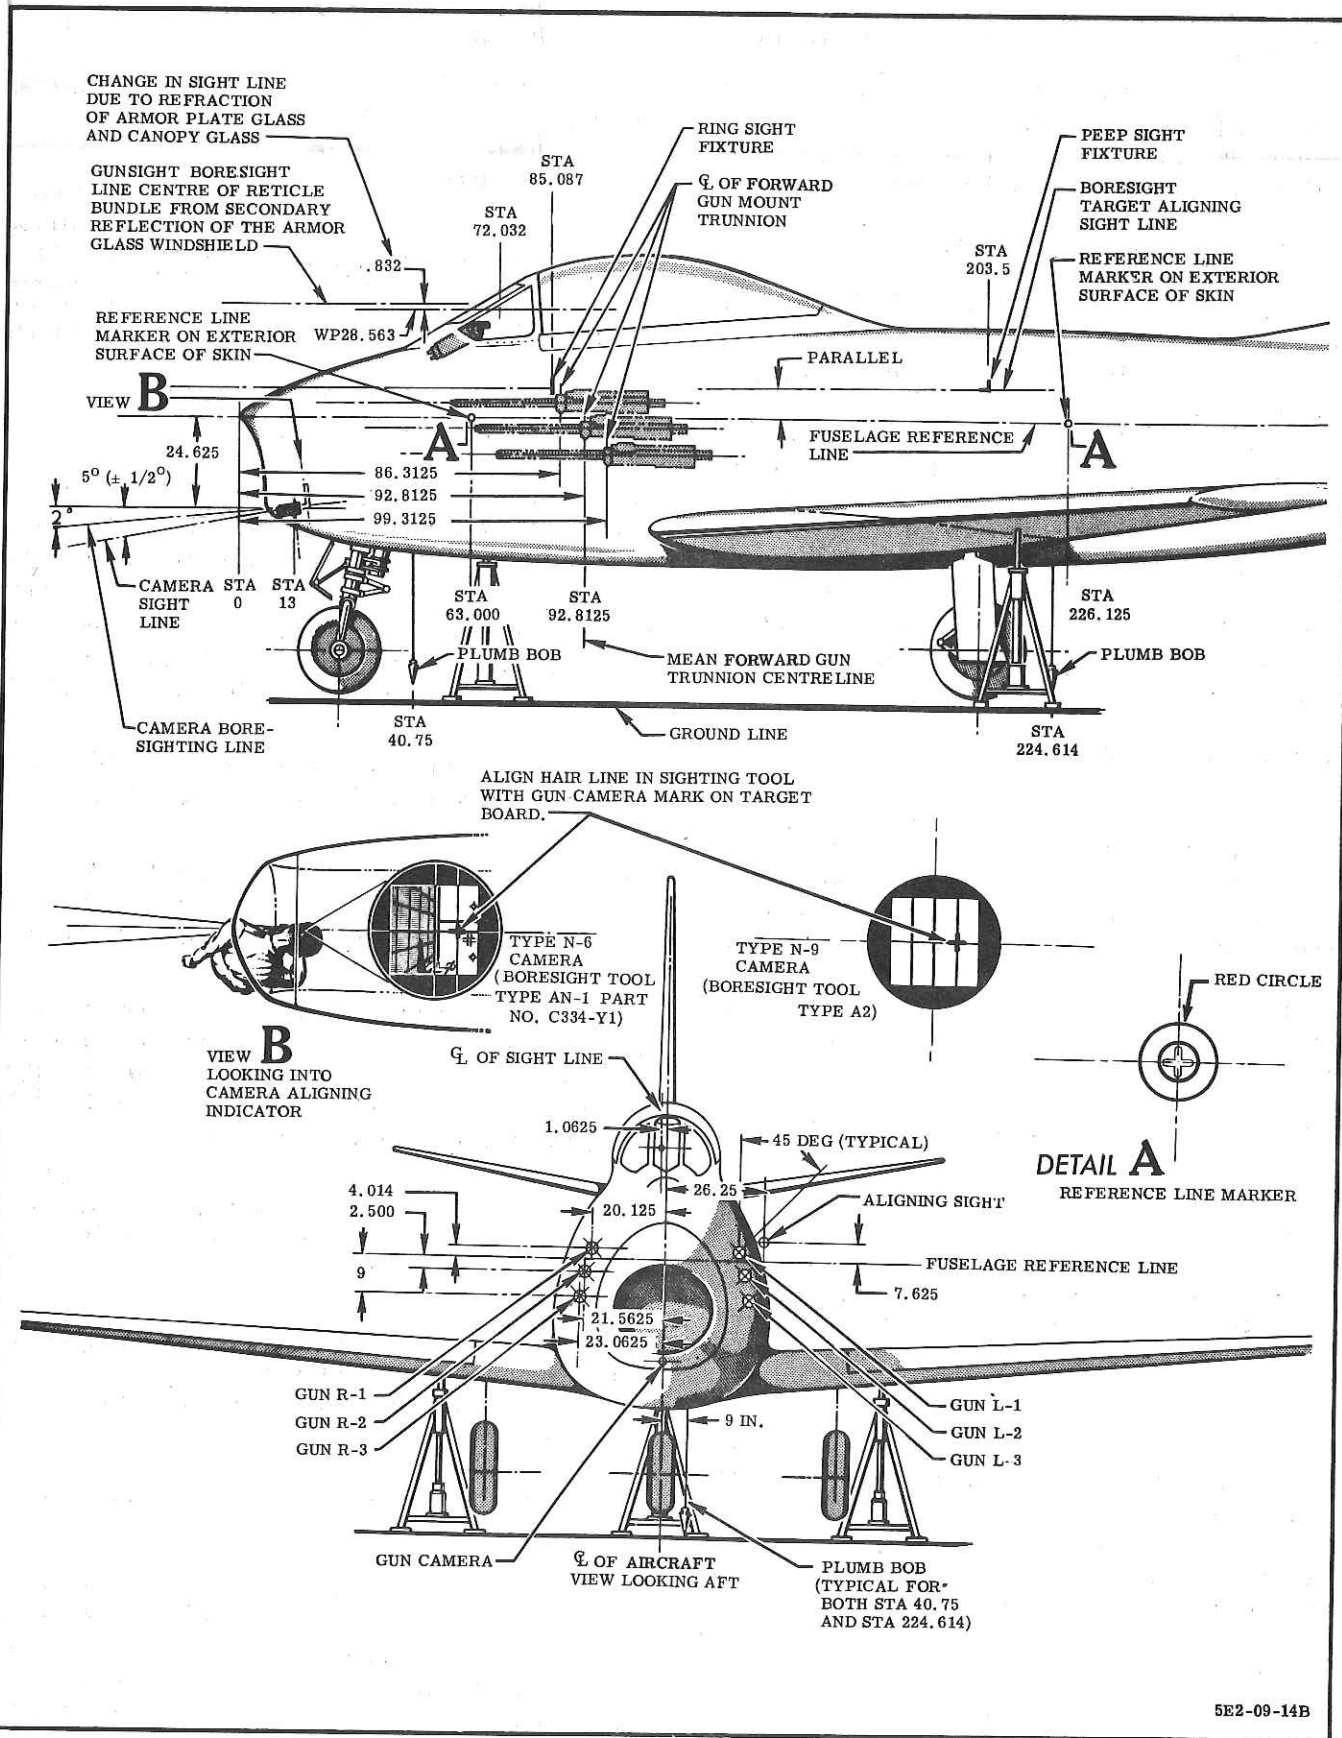

Figure 9-16 Harmonizing Guns, Sight and Camera
(g) Suspend plumb-bobs from the plumb-bob points on the bottom of the fuselage as shown in Figure 9-16.
- (b) Type N-6 camera: Adjust the camera so that the intersecting lines of the boresight cross (sighting point) on target board appear midway between the horizontal line and the upper extremity of the vertical line in the boresight tool (see Figure 9-16).
line of the three horizontal sighting lines in the boresight tool (see Figure 9-16).